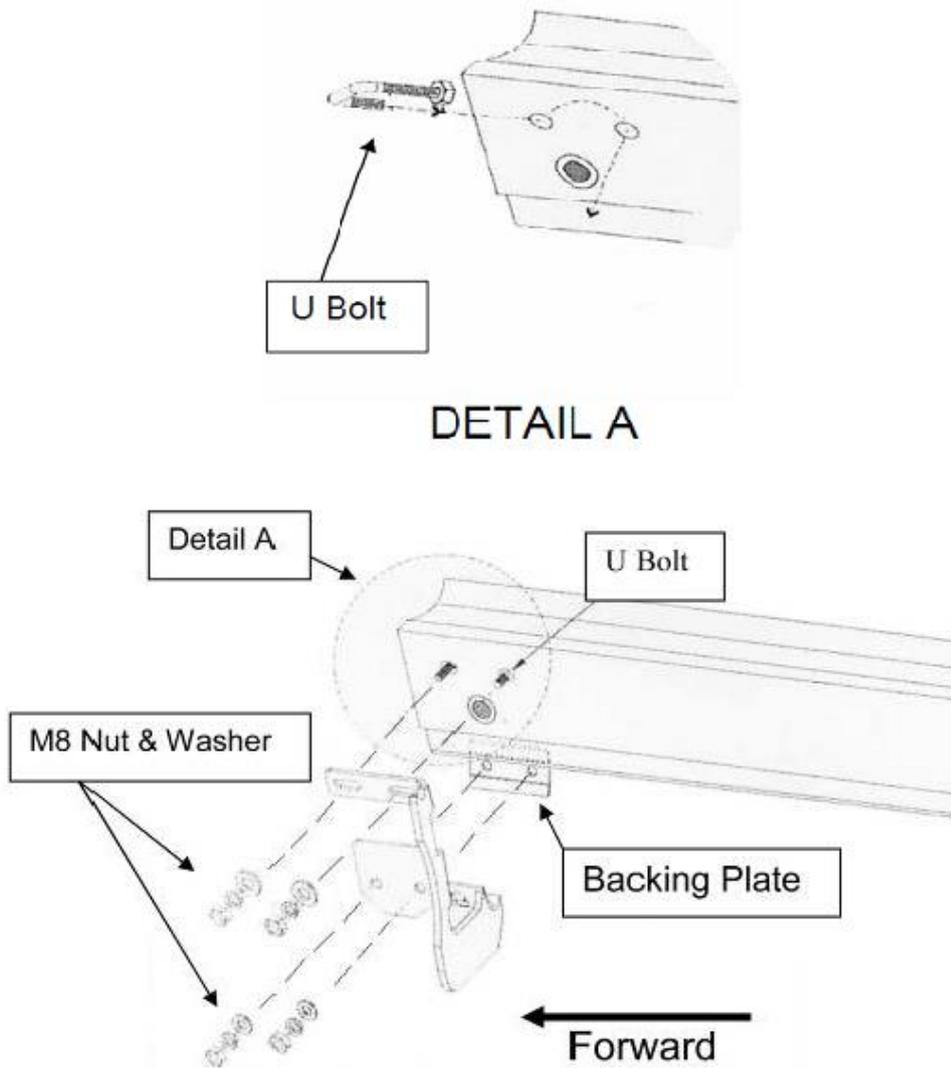

Figure 1. Passenger Side Front Bracket
2. Locate the round holes on rocker panel for bracket installation. Insert M8 hex nut on the longer end of U-bolt. Insert U-bolt through the first hole and out through the second hole. Install M8 hex nut on shorter end of U-bolt after it comes through second hole in the rocker panel. This will help prevent the U-bolt from falling into the rocker panel. Remove the hex nut on the longer end of the U-bolt and position the top flange of the bracket onto the longer end of the U-bolt. Secure with M8 bolt set as shown. Leave loose. Remove the hex nut on the shorter end of the U-bolt. Position bracket and secure with M8 bolt set as shown. Repeat for all brackets. See Figure 1. 2. 3.
4. The backing plate will clamp the bracket and pinch weld together. See Figure 1. 2. 3.